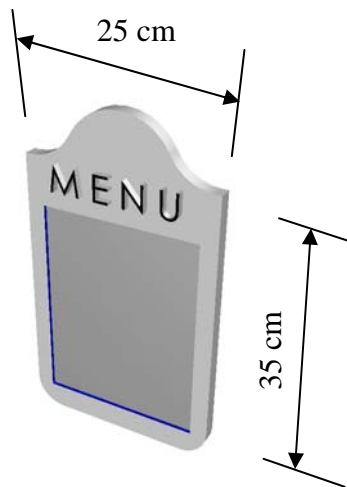

Figure 1a: MENU BOARD
(Refer to Figure 1a and Figure 1b)
1. Since the menu board is going to be fixed outside the restaurant, what type of finish would you suggest to make it more weather resistant? (Refer to figure 1a)